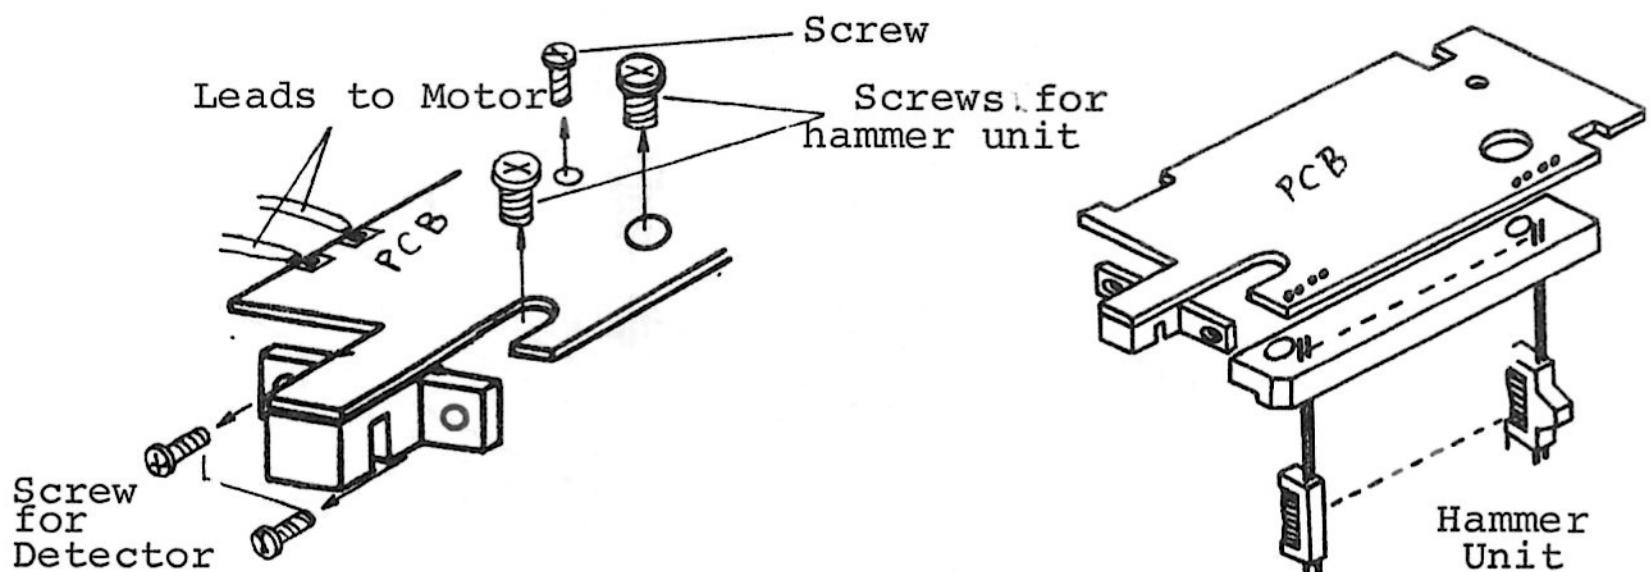

Fig. 16
- (1) Remove paper guides (18, 19).
- (2) Remove five retaining screws, two for detector (65), two for hammer unit and one for PCB. (Fig. 16)
- (3) Disconnect leads of hammer unit from PCB using desoldering tool.
- (4) Remove PCB and take off hammer unit.